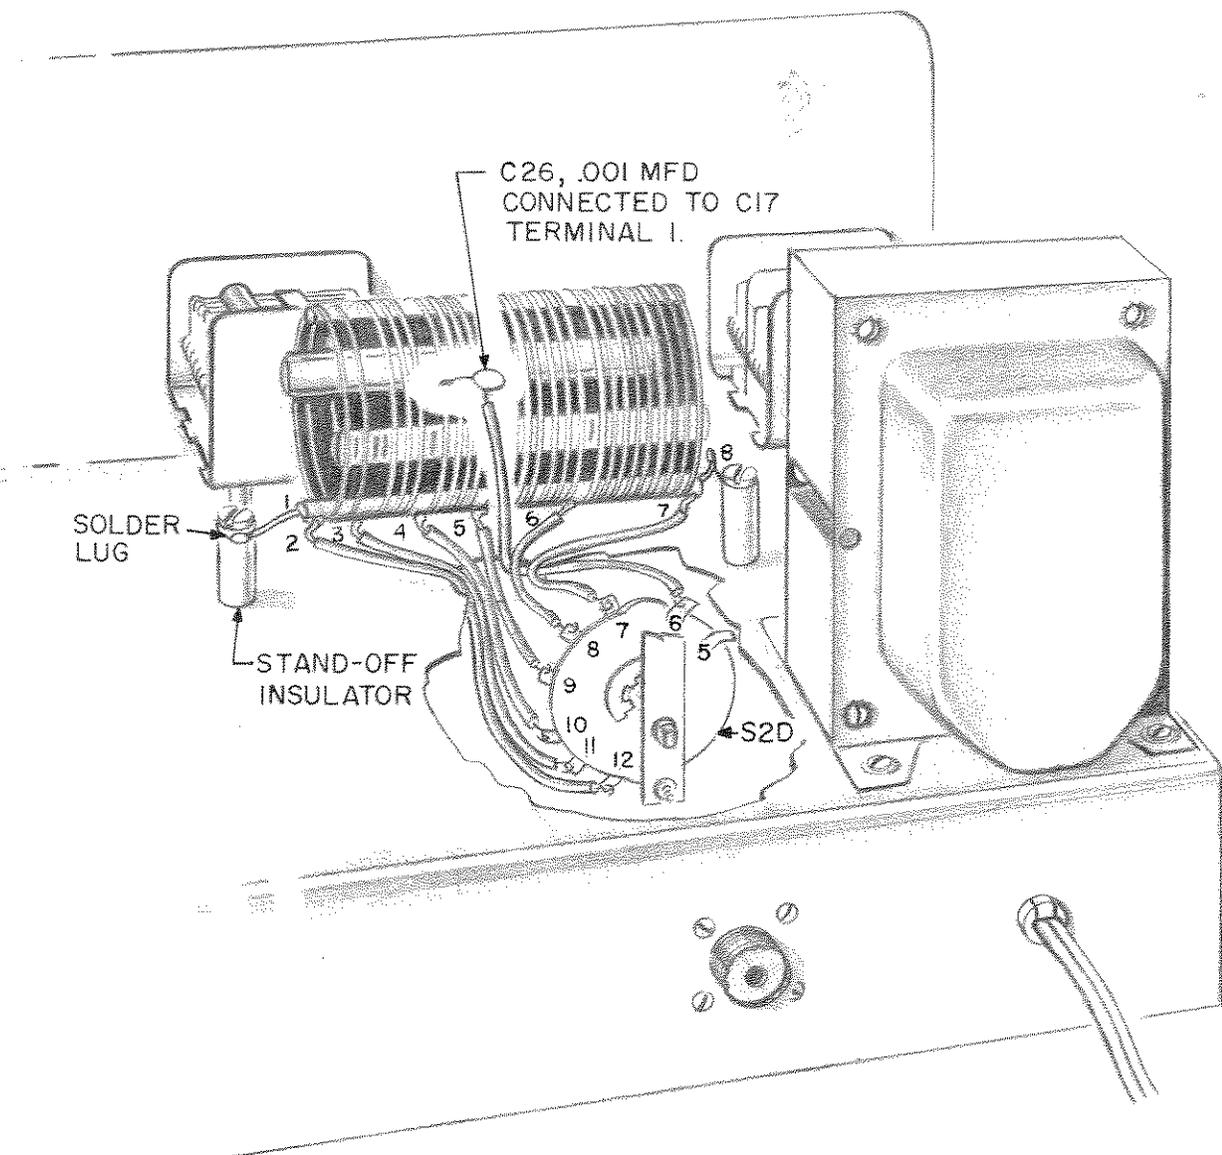

Figure 20. Mounting Output Tank Coil L10.
- (✓) Feed leads 2 through 7 (with yellow sleeving) of L10 down through hole No. 55 to a point where leads 1 and 8 are in a position to be placed into the solder lugs on the top of the standoff insulators (at holes 37 and 38 in chassis) as shown in Figure 20.
- (✓) Connect leads 1 and 8 at each end of L10 to the bottom hole in the solder lugs on the standoff insulators (DS).